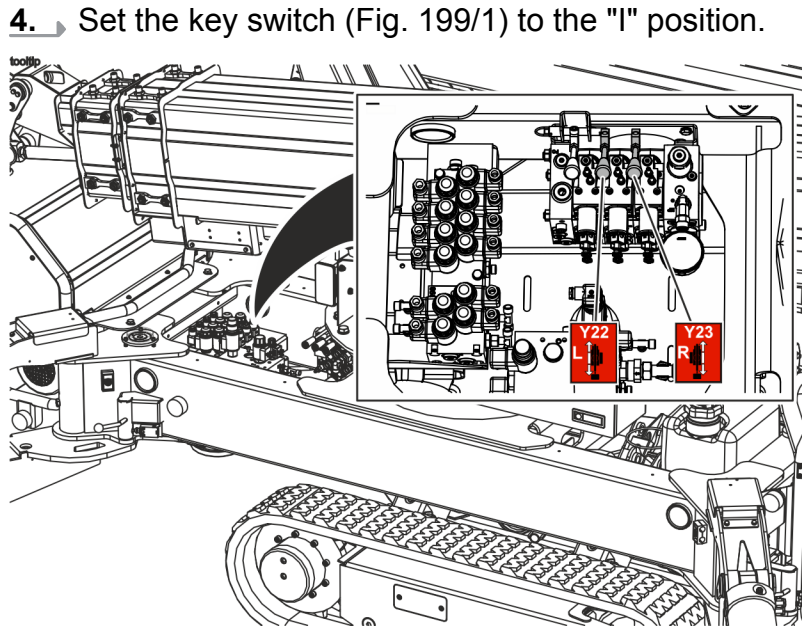

Fig. 200: Chain drive
5. Use the valves (Fig. 200/Y22 and Y23) to operate the crawler chassis: